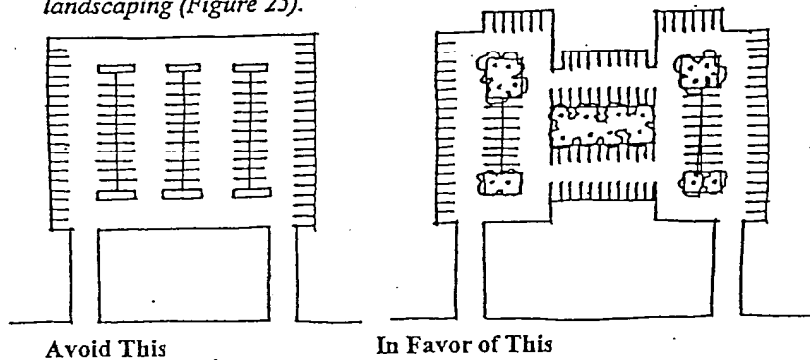

Figure 25
- ☐ *Break large parking areas into smaller parking courts separated by significant islands of landscaping (Figure 25).*